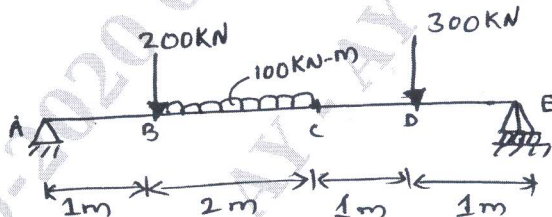

Fig.Q5(b)
- b. A simply supported beam is loaded as shown in Fig.Q5(b). Determine the deflection at points B, C and D. Take $E = 200 \text{ GPa}$ and $I = 10^9 \text{ mm}^4$.